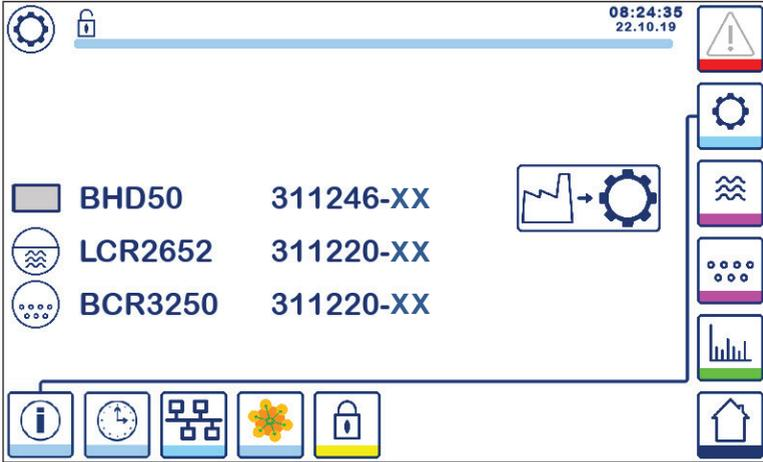

Fig. 42 Setup window
Figure 42 shows the setup window info screen showing the name of the devices in the system with the corresponding software number and software version (XX).